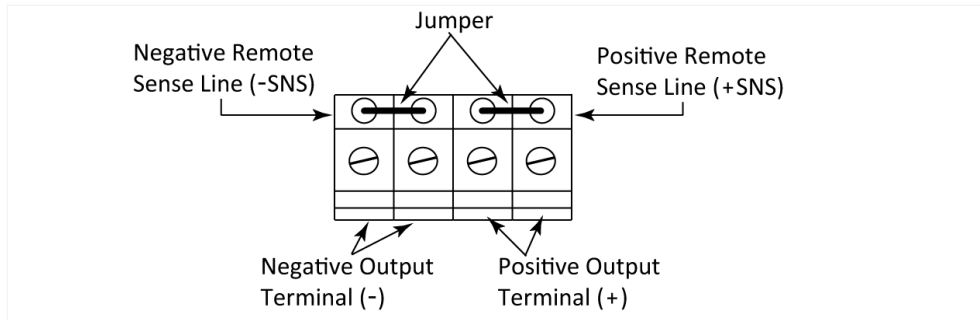
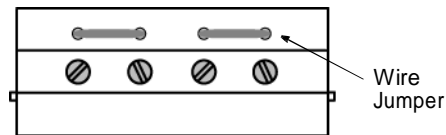

Figure 3.2 Output Barrier Strip With Jumpers Installed
Figure 3.3 Output Terminal Block With Jumpers Installed
2. Using a flat-bladed or #2 Phillips screwdriver, loosen the positive (+) and negative (–) output terminal screws on the output barrier strip. See Figure 3.2, “Output Barrier Strip With Jumpers Installed”.
2. Using a 1/8 in. (4 mm) flat-bladed screwdriver, loosen the terminal screws on the output terminal block. Insert wires into the output terminals (–, +) from the bottom of the block. See Figure 3.3, “Output Terminal Block With Jumpers Installed”.
Without sense line connections, the supply regulates the voltage at the output terminals of the power supply. For improved local sensing, connect jumpers between the sense terminals and the output terminals. See Figure 3.2 and Figure 3.3.
3. Tighten the screws to the barrier strip. See Figure 3.2.
High Voltage Models Two wire jumpers are shipped unattached with 60 V models. If your application requires precisely regulated output voltage at the rear output terminals, install the jumpers by inserting the jumper wires into the jumper terminals as shown. See Figure 3.3.